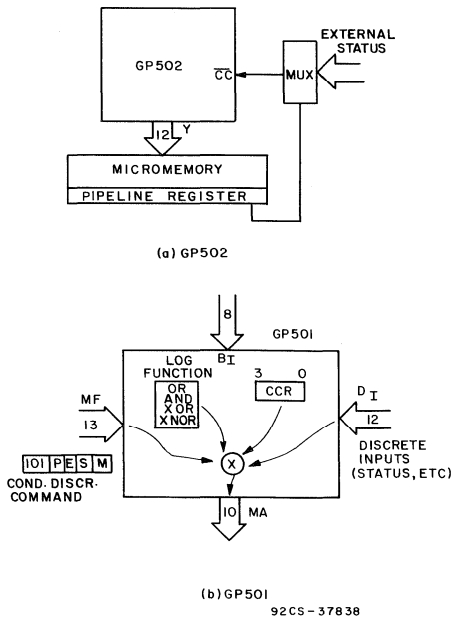

Fig. 19 - Conditional testing.
Conditional Testing - Conditional testing of status, typically such ALU statuses as carry and overflow, requires external multiplexing to the single-input CC for the GP502, Fig. 19(a).
The GP501, Fig. 19(b), accepts a number of status signals directly at the discrete interface (DI). Opcode 5 allows logical OR, AND XOR, and XNOR to be performed on any combination of these input bits by applying an immediate mask value or the contents of the prestored CCR register as a mask.